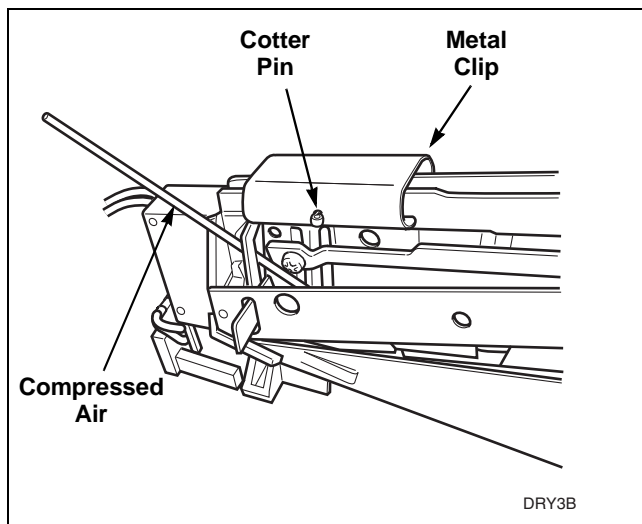

Figure 57
- If lint is preventing coins from rolling through coin drop, blow compressed air through coin entry and along the side of the coin drop. Refer to *Figure 57*.
- Remove cotter pin from top of drop. Refer to *Figure 57*. Save pin for reinstallation when cleaning is complete.
- Move metal clip closer to sensor so that it comes off frame. Refer to *Figure 57*.